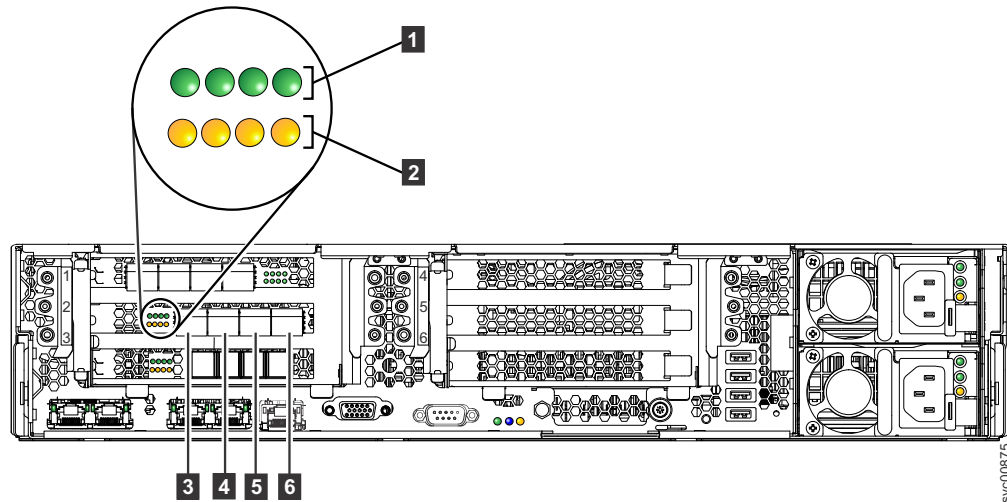

Figure 40. 10 Gbps Ethernet ports
2. Optional: If the 10 Gbps Ethernet feature is installed, you can connect Ethernet optical cables to 10 Gbps Ethernet ports as required by your configuration. Figure 40 shows an example of a 2145-DH8 with the 10 Gbps Ethernet feature installed in slot 2.